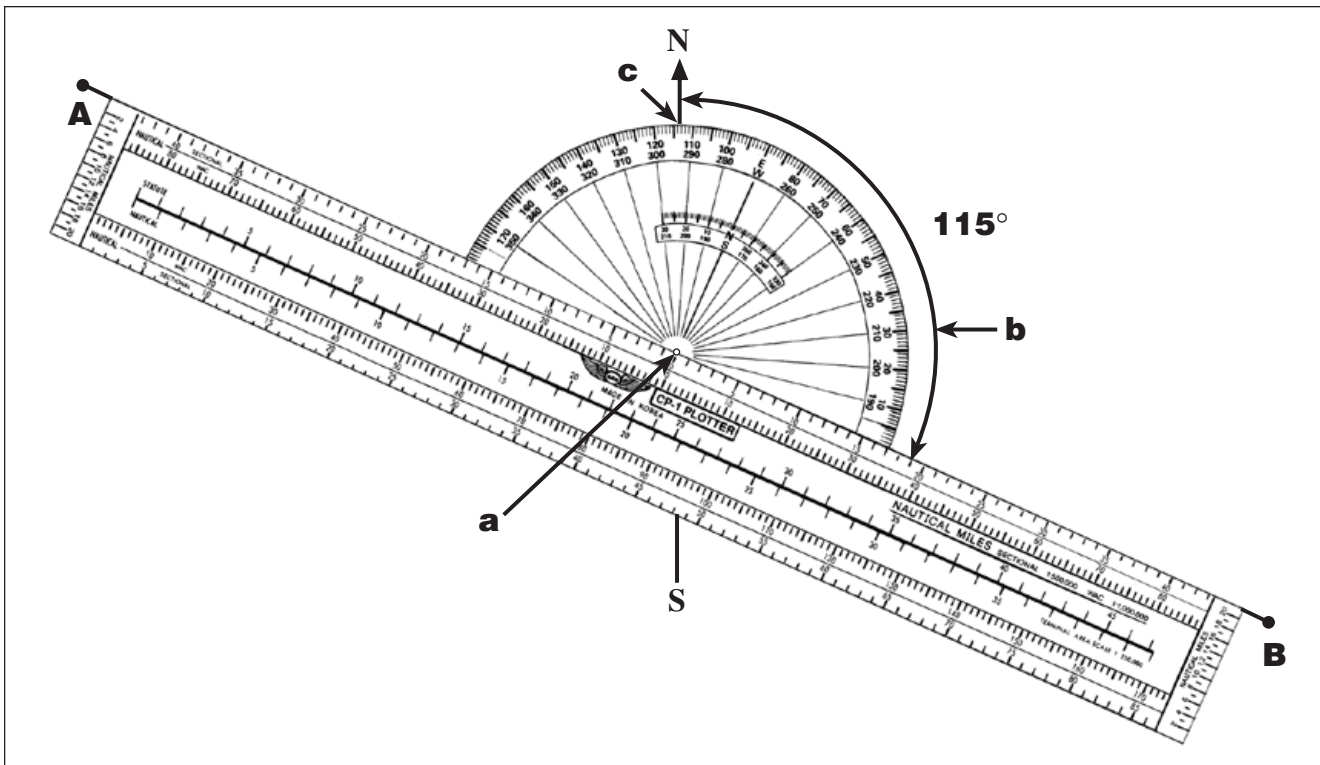

Figure 9-2. Placing the plotter on the course line
A common type of plotter that is used to plot a course is shown in Figure 9-2 on the next page. This plotter is a semi-circular protractor with a straight edge attached to it. The straight edge has distance scales that match various charts and these scales may depict both statute and nautical miles. A small hole at the base of the protractor portion indicates the center of the arc of the angular scale. Two complete scales cover the outer edge of the protractor, and they are graduated in degrees. An inner scale measures the angle from the vertical.
3. The true course is the angle measured between the meridian and the course line. See Figure 9-2b. The outer scale is used to read all angles between north through east to south, and the inner scale is used to read all angles between south through west to north. In Figure 9-2 the true course from point (a) to point (b) is 115° as read at point (c).